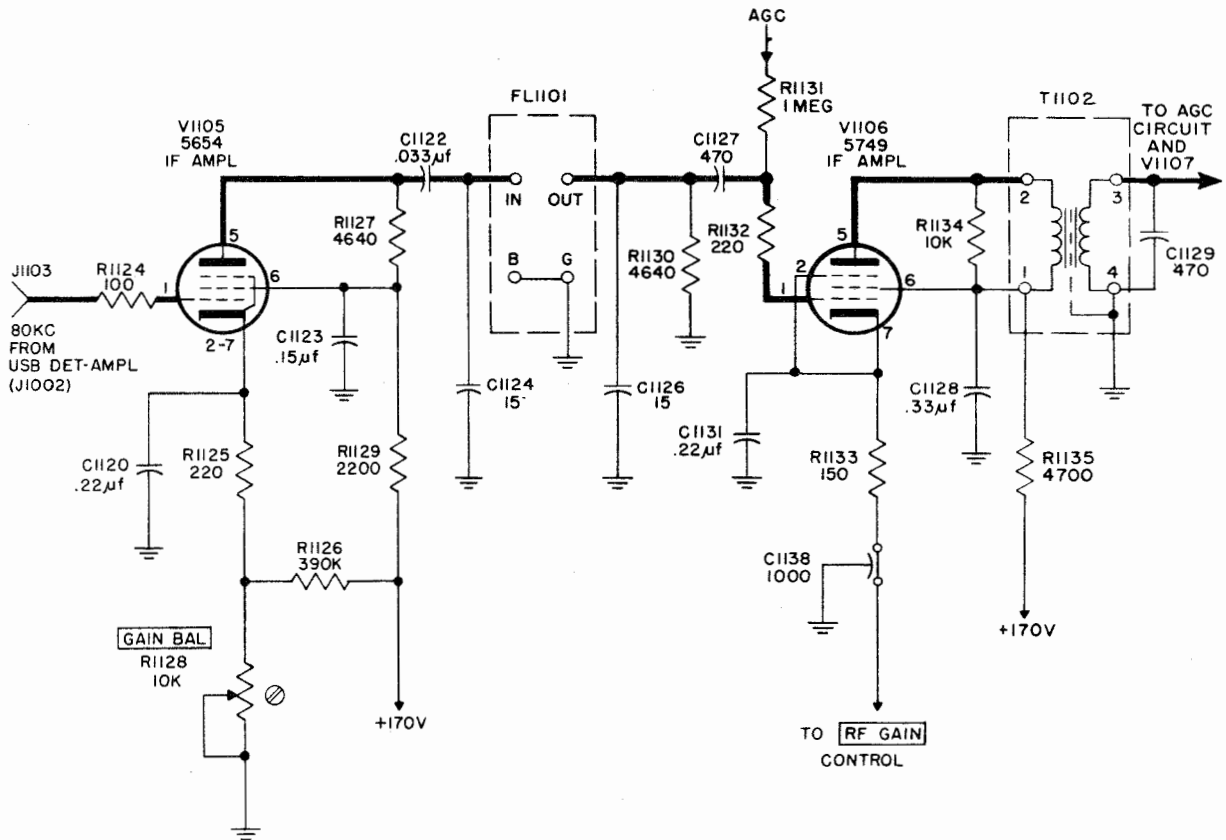

Figure 4-33. IF Amplifiers V1105 and V1106, Simplified Schematic Diagram
b. IF AMPLIFIER V1105-1106. (See figure 4-33.)